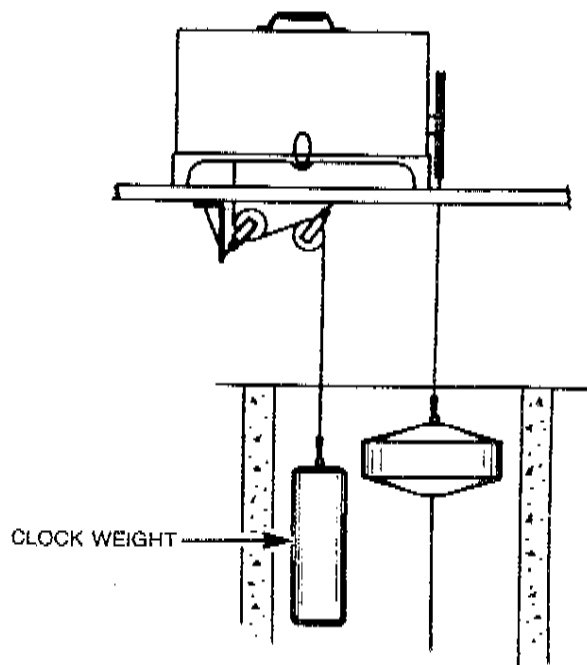

Figure 3. Positioning to Accommodate Weight Drive
- Step 12. If your setup includes the round float and the Weight-Driven Timer, refer to Figure 3 to do the positioning. If not, proceed with step 13.